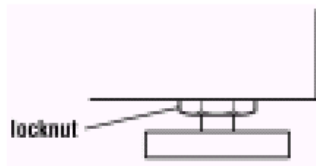

Fig. 2-7
10. When the washer is level, use a 9/16" open-end wrench to securely tighten all four (4) feet locknuts against the pedestal. (*Fig. 2-7*) **The locknuts must be tightened.**